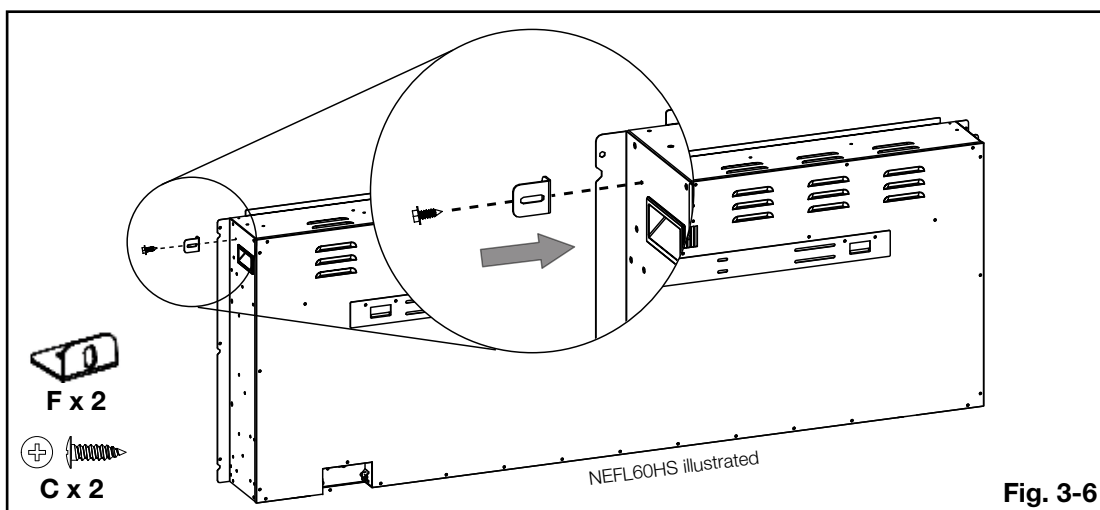

Fig. 3-6
- A. Install 2 metal brackets (1 per side) (supplied) onto the top sides of the appliance (**Fig. 3-6**).